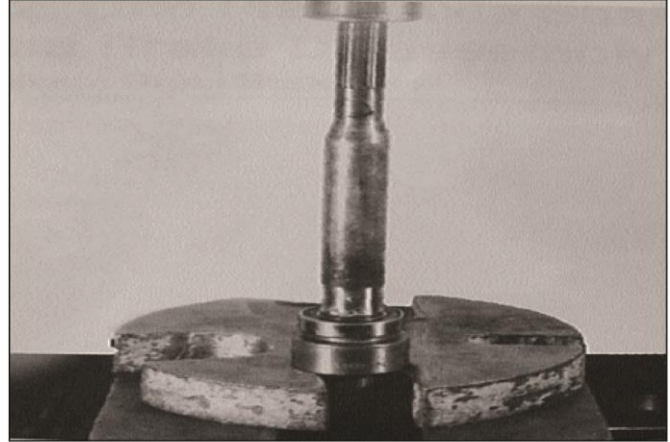
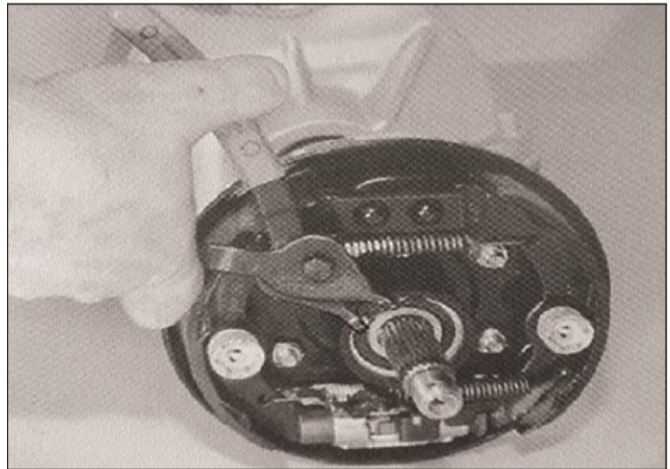

Figure 7-30
Figure 7-31
18. Press bearings (26) onto axle shafts (22). Bearing should seat on shoulder. Use appropriate driver to install bearings. See Figure 7-30.
19. Coat lip of seal (24) with SAE 30 oil before inserting axle shaft (22). Insert axle shaft assemblies into tubes. Using a properly sized bearing driver, tap axle shaft assembly until it is seated firmly against inner snap ring (25). Shaft may have to be rotated to engage differential splines during installation.
20. Install outer snap ring (25) in each tube (Figure 7-31).
21. Remove fill plug (19) in cover plate (18). Fill axle assembly with 12 ounces (360 ml) of Light Weight Gear Lubricant, SAE 30. Install fill plug. If it is a threaded plug, torque to 25-40 ft. lbs. (6-14 Nm).